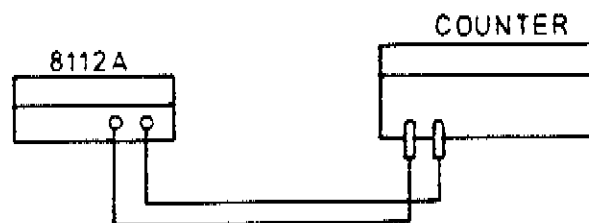

Figure 4-2. Equipment setup for DEL performance test.
1. Connect equipment as shown in Fig. 4-2.